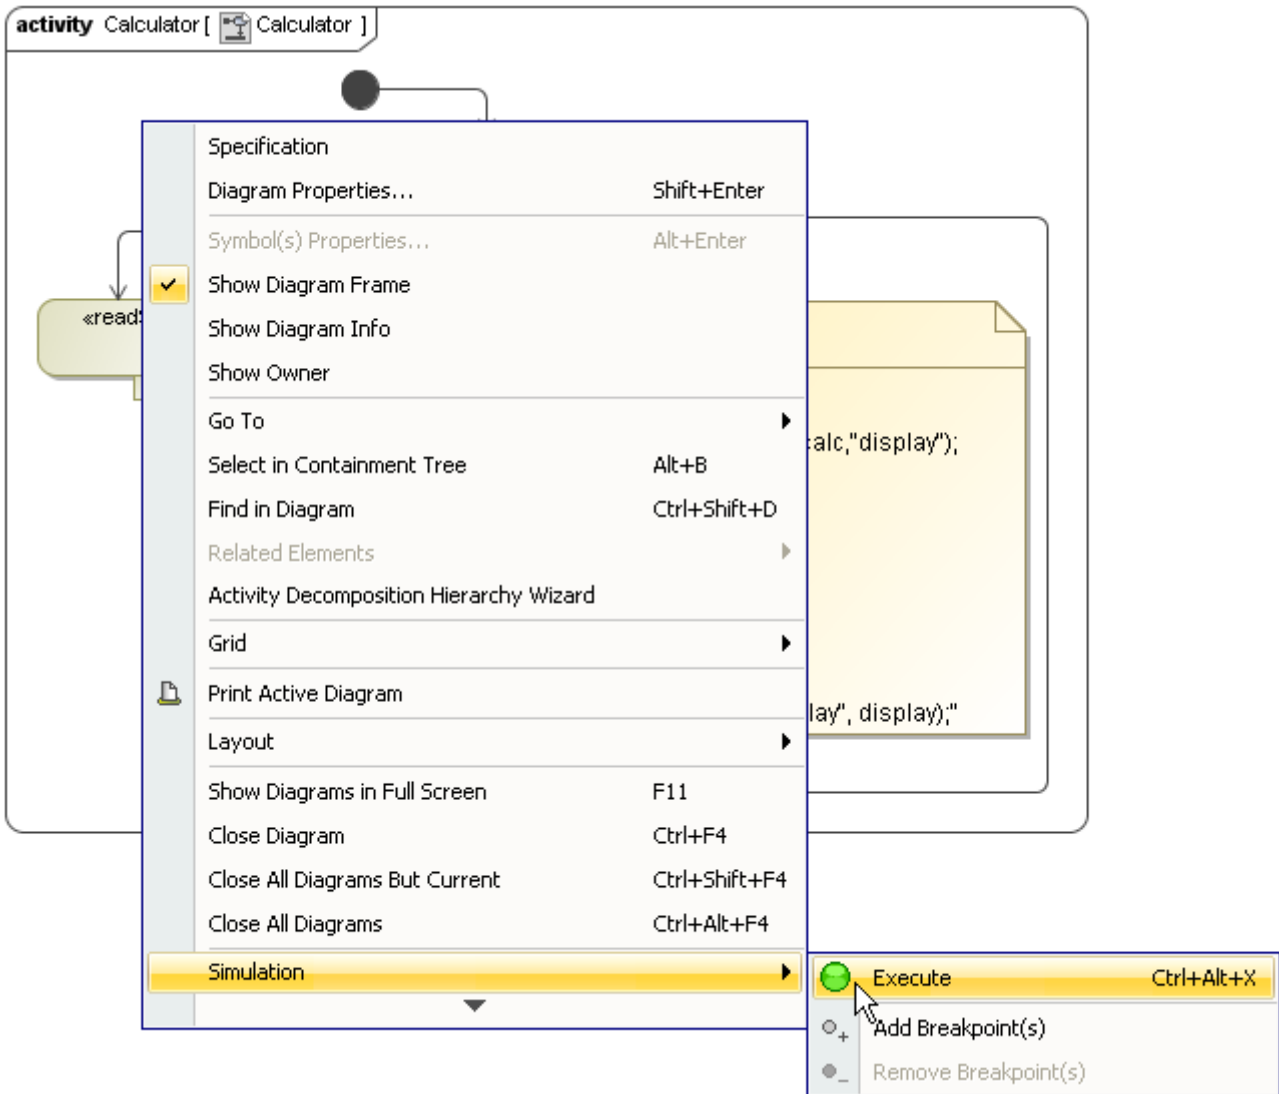

Figure 11 -- Executing Activity Diagram
- Right-click a diagram and select **Simulation > Execute** (Figure 11). The element, which is the context of the diagram, will be executed the same way a behavior or a class is executed.